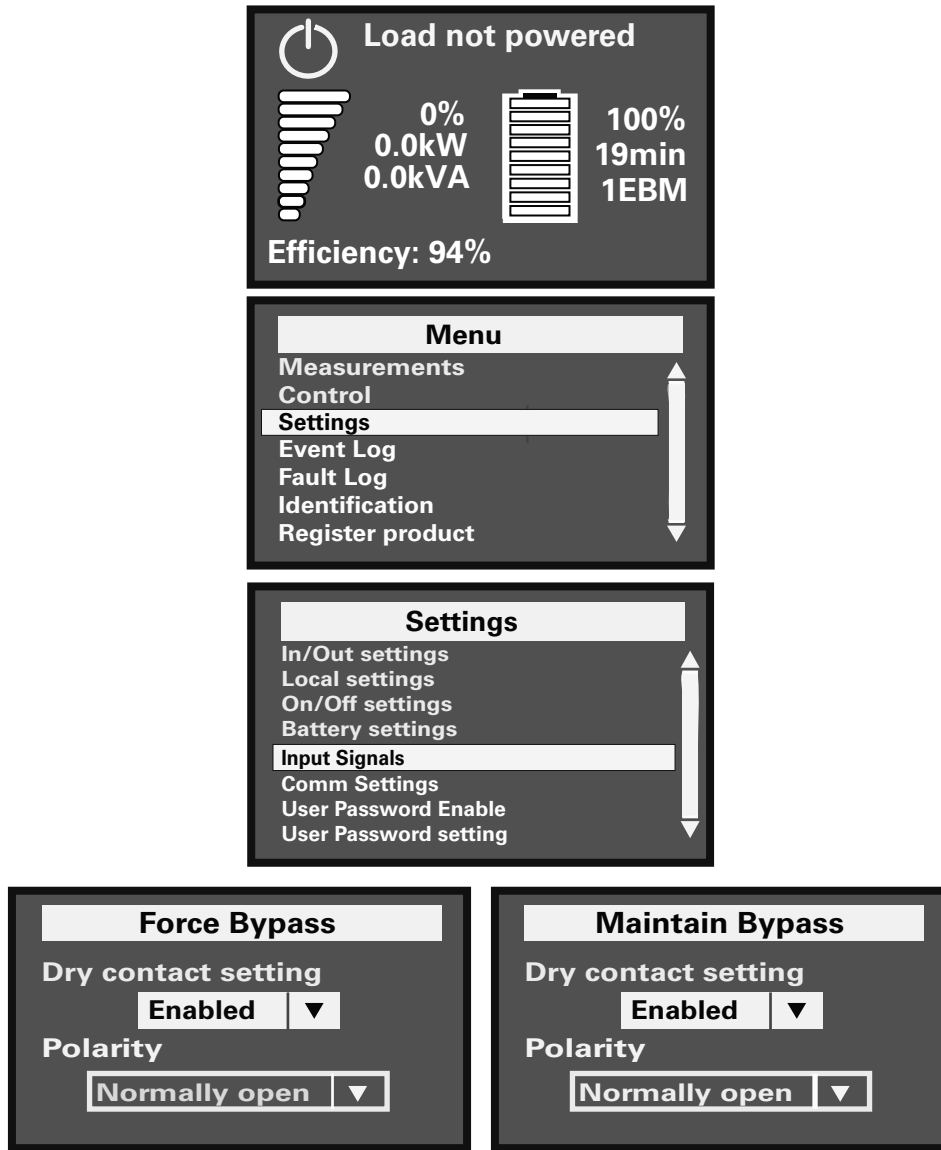

Figure 22. Forced and Maintenance Bypass Screens
- d. Set both Forced Bypass and Maintain Bypass settings to Enabled and Normally open (see Figure 22).